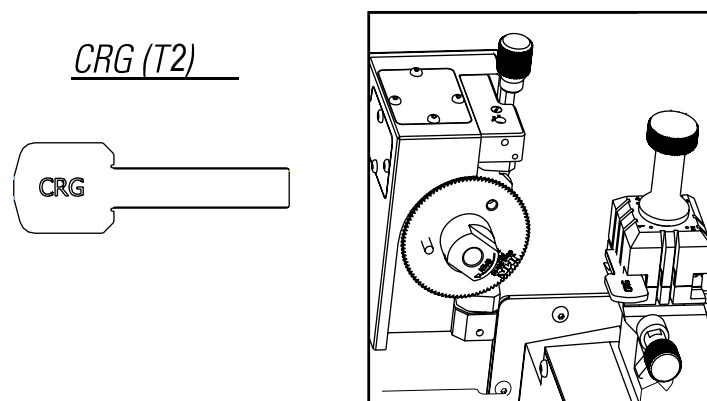
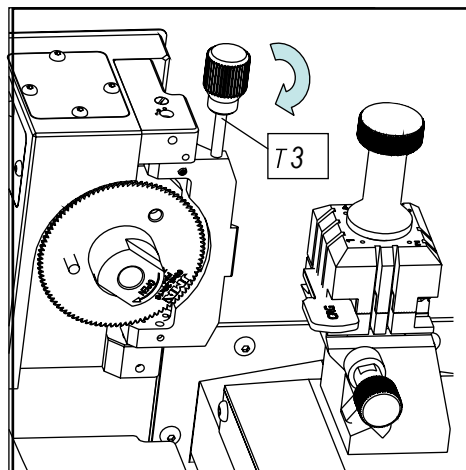

FIG. 17
FIG. 18
- 1) Place the CRG (T2) in the clamp MP1 on side 1.(Fig. 17)
- 1) Place the CRG (T2) in the clamp MP1 on side 1.(Fig. 17) (Fig. 18)